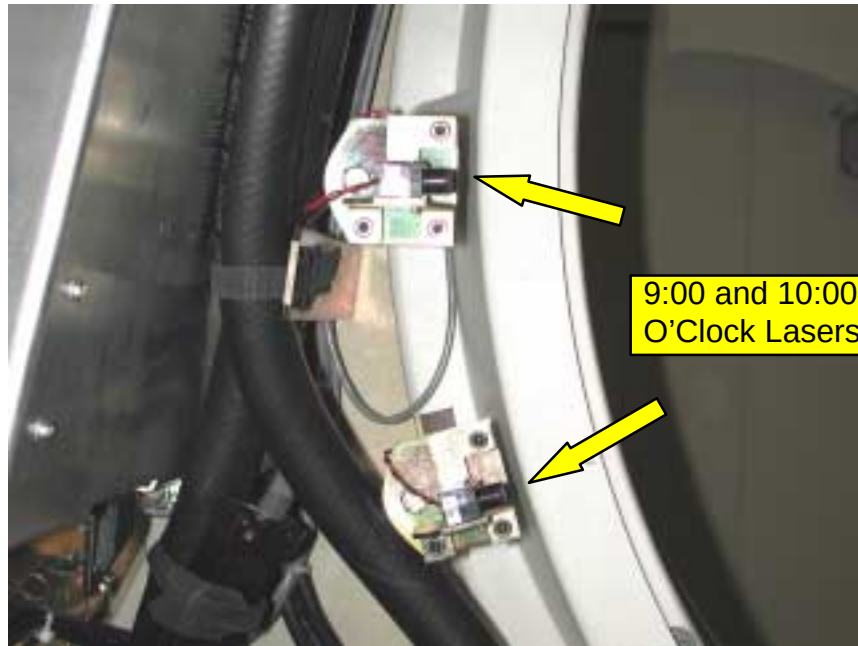

FIGURE 92 9:00 and 10:00 O'Clock Split Laser on AcQSim-CT Scanframe
The 3 Gantry Lasers are essentially the same for Ultra Z and AcQSim-CT with one small difference. The 9:00 O'clock laser has been split into (2) separate lasers on AcQ-Sim-CT. The 'X' direction is at 10:00 O'clock and the 'Z' direction is placed at 9:00 O'clock. See Figure 92.